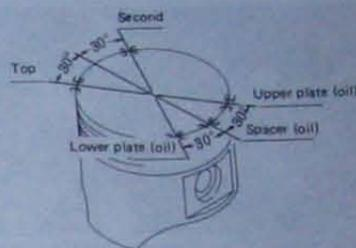

Fig. 2.21 Piston ring end gap spacing (Sec 43)
4. With all the rings in position, space the ring end gaps as shown in Fig. 2.21.